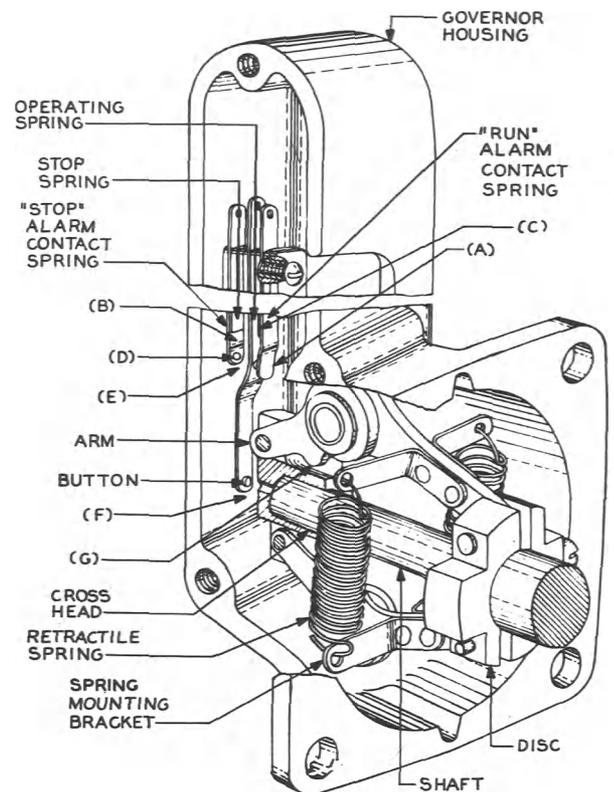

Fig. 10 - Link-type Alarm Mechanism
*2.25 Spring Tension: Fig. 10(C) - With the run alarm contact open, the contact spring shall rest on its associated stop spring as close as practicable to the end of the spring nearest the contact with a tension of
*2.26 Contact Follow: Fig. 10(D) - With the motor stopped and with the end play of the motor worm taken up toward the motor coupling, there shall be a follow of the stop alarm contact of 0.005 inch.